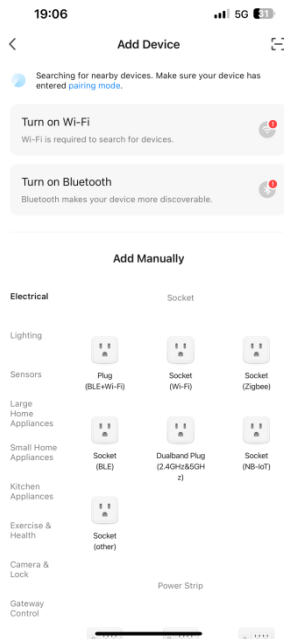

Fig.2
3.2. In this mode, allow the app to access Wi-Fi and Bluetooth for searching for devices. Wi-Fi devices can be found only when Wi-Fi is enabled. Nearby Bluetooth devices can be found only when Bluetooth access is allowed. (Fig.2)